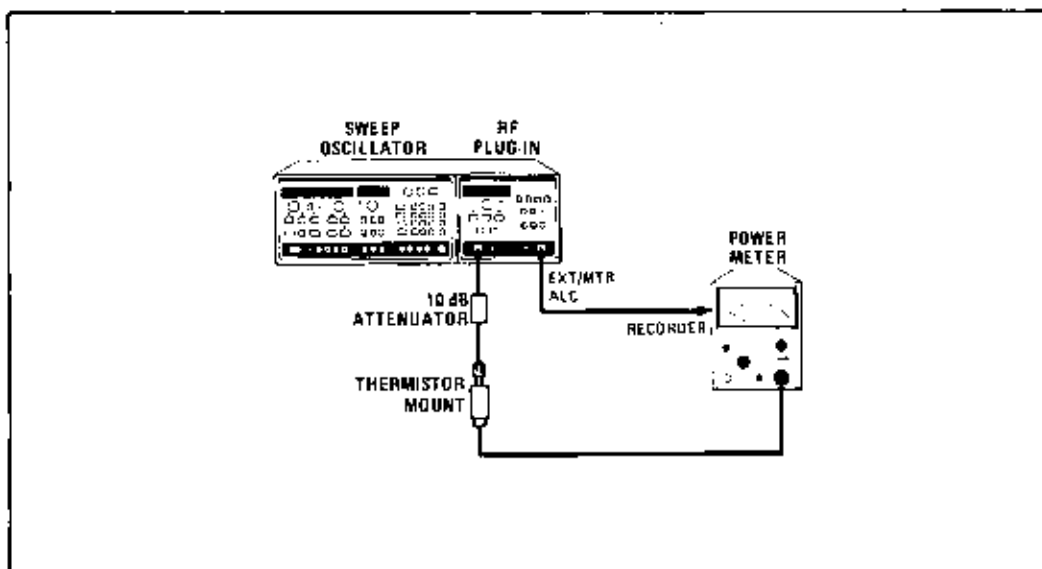

Figure 8-27. Power Meter Leveling Setup
- Attempt to level the power externally using the HP 432A Power Meter as shown in Figure 8-27. Select **MTR** leveling, and enter a slow (at least 30 seconds) sweep time. If the RF power is now leveled then the failure is most likely in the detector or the Detector Selection Switch, A4U6. Refer to the following paragraph. If this does not prove to be the case, the problem may be in the two analog switches U4B and U6A. It may be necessary to perform the ALC adjustments in Section V of this manual.